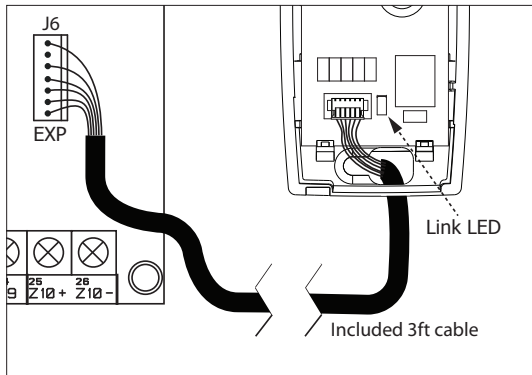
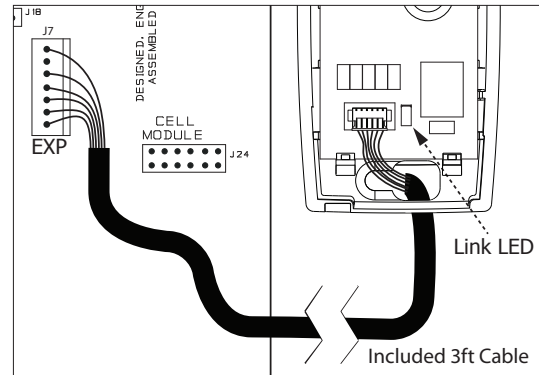

Figure 2: 763 to XT30/XT50 Series
Figure 3: 763 to XR150/XR550 Series
2. Connect the opposite end of the cable to the panel EXP header provided on the XT30/XT50 Series, XR150/XR550 Series panels. See Figure 2 and Figure 3.
The 763 provides a Green link LED that displays constant to indicate network communication. See Figure 2 and Figure 3.
2. Connect the included cable to the 763 6-pin header. See Figure 2 or Figure 3.